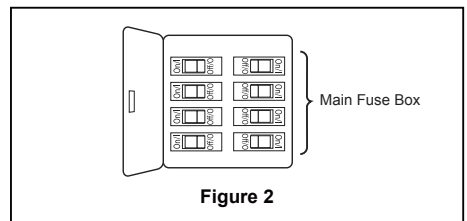

Figure 2
Your new ceiling fan will require a grounded electrical supply line of 120 volts AC, 60 HZ, 15 Amp Circuit. Electrical code requires use of a fan-rated outlet box to support the extra weight and motion associated with a ceiling fan. A fan-rated box will be labeled as such and typically supports up to a 70lbs ceiling fan. Fan-Rated Outlet Boxes vary in ratings and design. Ensure the ratings of your ceiling fan outlet box meet the requirements for the ceiling fan being installed. Figure 1, Figure 2 and Figure 3 depicts different structural configurations that may be used for mounting the outlet box.
Deep box (Figure 2)
2. Remove the two set screws and locking nuts of the downrod support from the motor assembly then retain the screws and nuts for **How to Assemble Your Ceiling Fan**, Step 4. (Figure 2)
2. Remove the hairpin clip and clevis pin from the bottom of the downrod. Retain the pin and clip for reinstallation in Step 4. (Figure 2)
The fan must be hung with at least 7' of clearance from floor to ceiling fan. (Figure 2)
To avoid possible electrical shock, be sure electricity is turned off at the main fuse box before wiring. (Figure 2)
2. Securely attach and tighten the canopy screw cover over the shoulder screws in the hanger bracket utilizing the key slot twist-lock feature. (Figure 2)
2. Assemble the light kit to the support bracket using the two key slots in the light kit. Replace the previously removed screw and securely tighten all three screws. (Figure 2)
2. Restore electrical power to the outlet box by turning the electricity on at the main fuse box. (Figure 2)